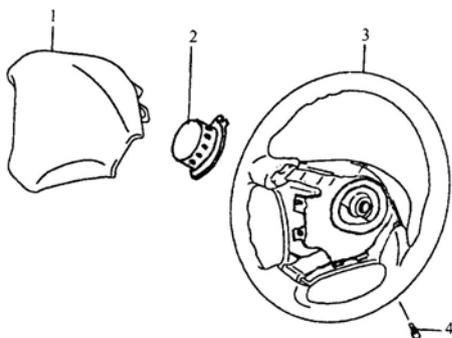

FIG.15-1
- (1) Fireproof glove and glasses should be necessary when removing the steering wheel with airbag system.
- (2) Loosen the four mounting bolts on steering wheel.
- (3) Take out airbag module inside steering wheel. (Refer to FIG.15-1)
- (4) Unclench the clip on the gas inflator seat by using a screwdriver, rotate gas inflator anticlockwise about 40° carefully, then take out the gas inflator.
- (5) Loosen the steering wheel mounting nut and take down steering wheel from steering column.